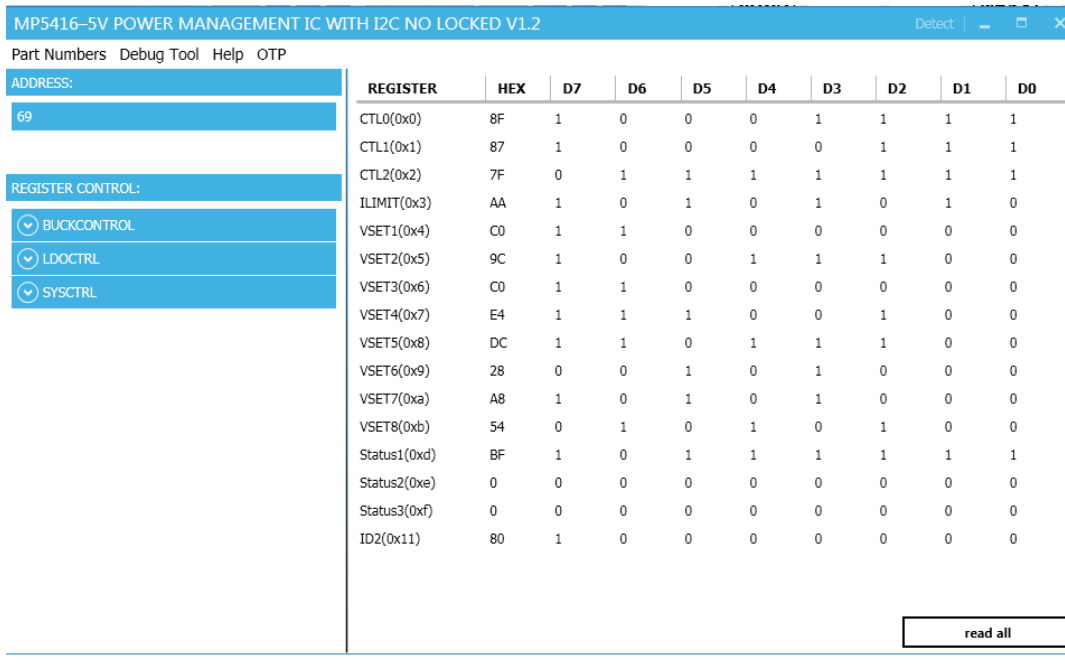

Figure 10: Values from I2C Shown in Table
3. Select MP5416 UNLOCK from under Part Numbers. The Register Control menu will appear on the left side. I2C register values will be read automatically and displayed on the right (see Figure 10).